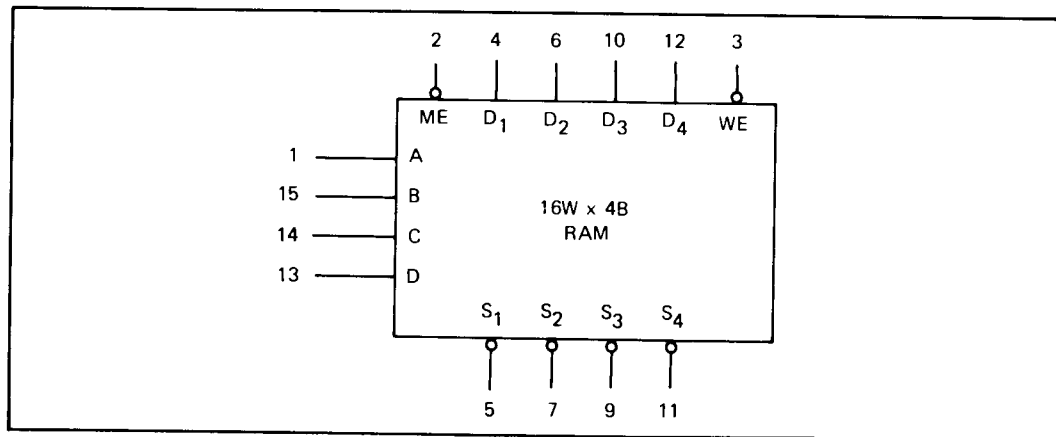

Figure 4-6. Random-Access-Memory (RAM) A5U14
4-39. The 64-bit random-access-memory (RAM) symbol is shown in *Figure 4-6*. The RAM is organized 16 words by 4 bits. Four address lines are buffered and decoded for word selection. When the RAM receives a low at the memory enable (ME) input, the binary address (A through D) is coded to select 1 of 16 four-bit words. If the write enable (WE) is low, the data present on the data input lines (D₁ through D₄) is written into the four bits of the selected word. There is inversion of logic levels through the RAM in a read operation.